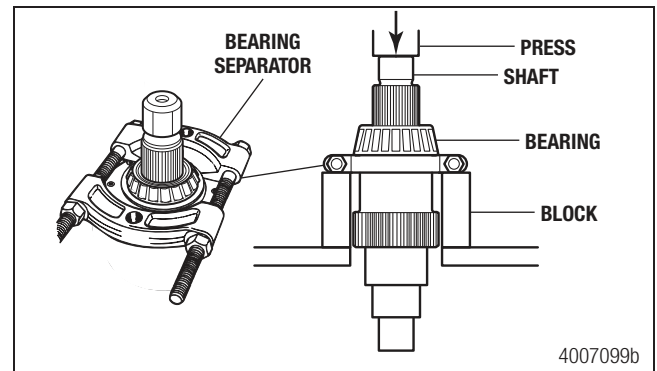

Figure 5.25
- Install a bearing separator or other suitable tool below the forward roller bearing. Figure 5.25.
- Install the output shaft assembly into a press and support it correctly. Figure 5.25.